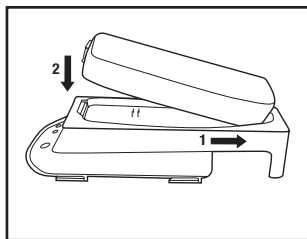

Fig. 2
4. Battery charging: Ensure the gold electrical contacts on the battery and charger are clean, dry, and free of debris. Insert the battery pack into the 3M™ Battery Charger Cradle TR-640 by sliding the back end of the battery pack in first. Set front end down into place (Fig. 2), charging will begin.